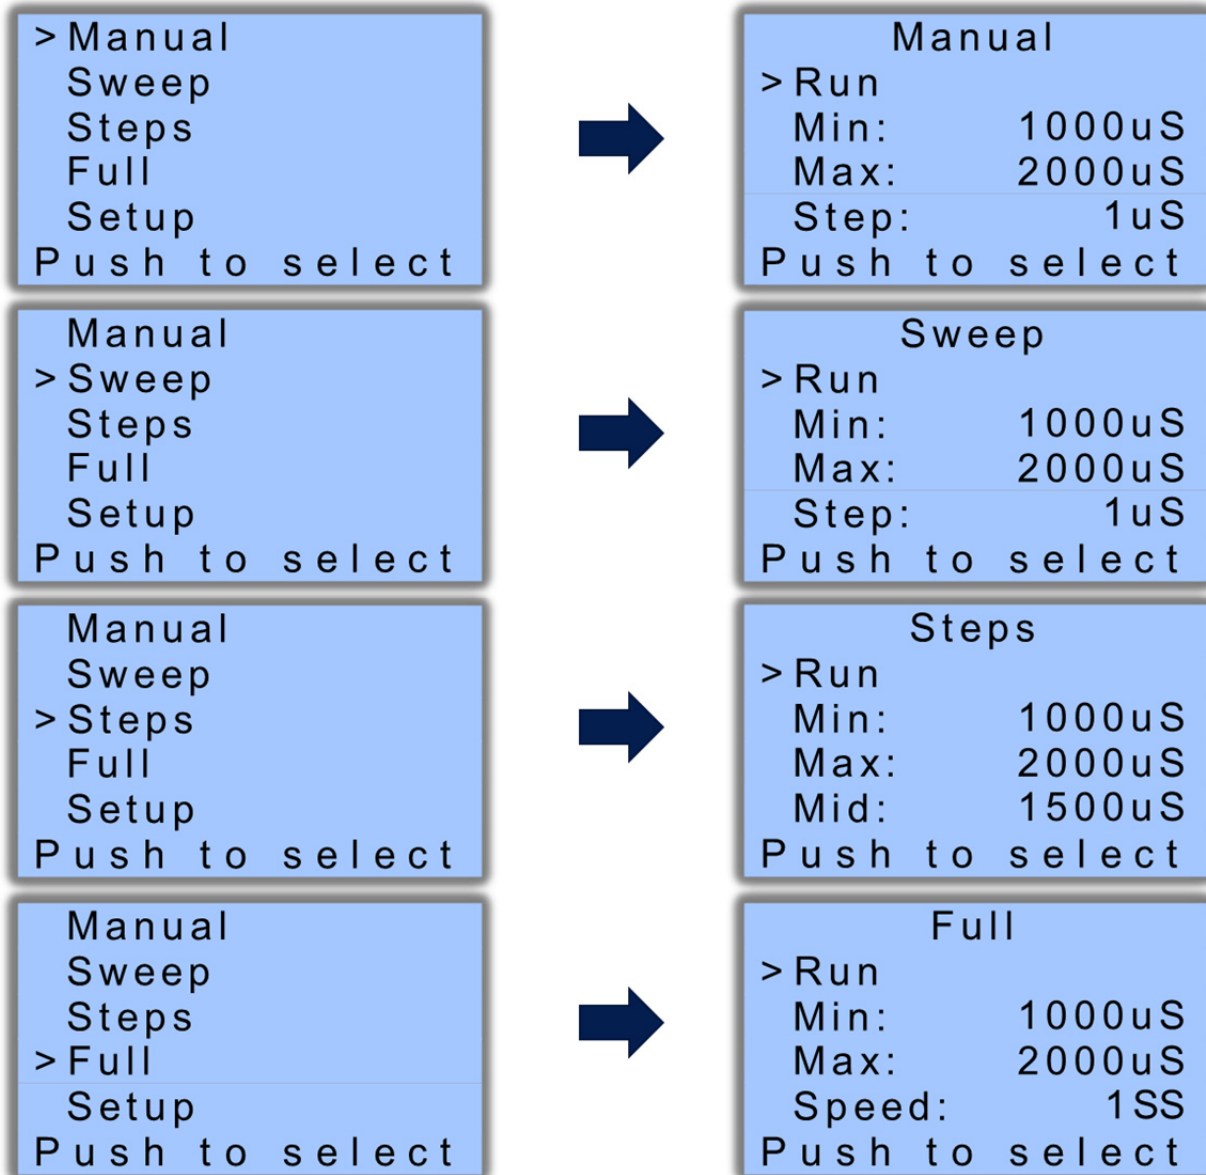

FIGURE 6 – Main menu navigation and selection of the 4 operation modes
There are 5 options available; a cursor (>) indicates the option currently selected, and the navigation is done by rotating the encoder. Counterclockwise (CCW) moves the cursor down, clockwise (CW) moves it up. Once the desired option is reached, pressing the encoder selects the option, and moves to the corresponding menu, as shown in **figure 6**.